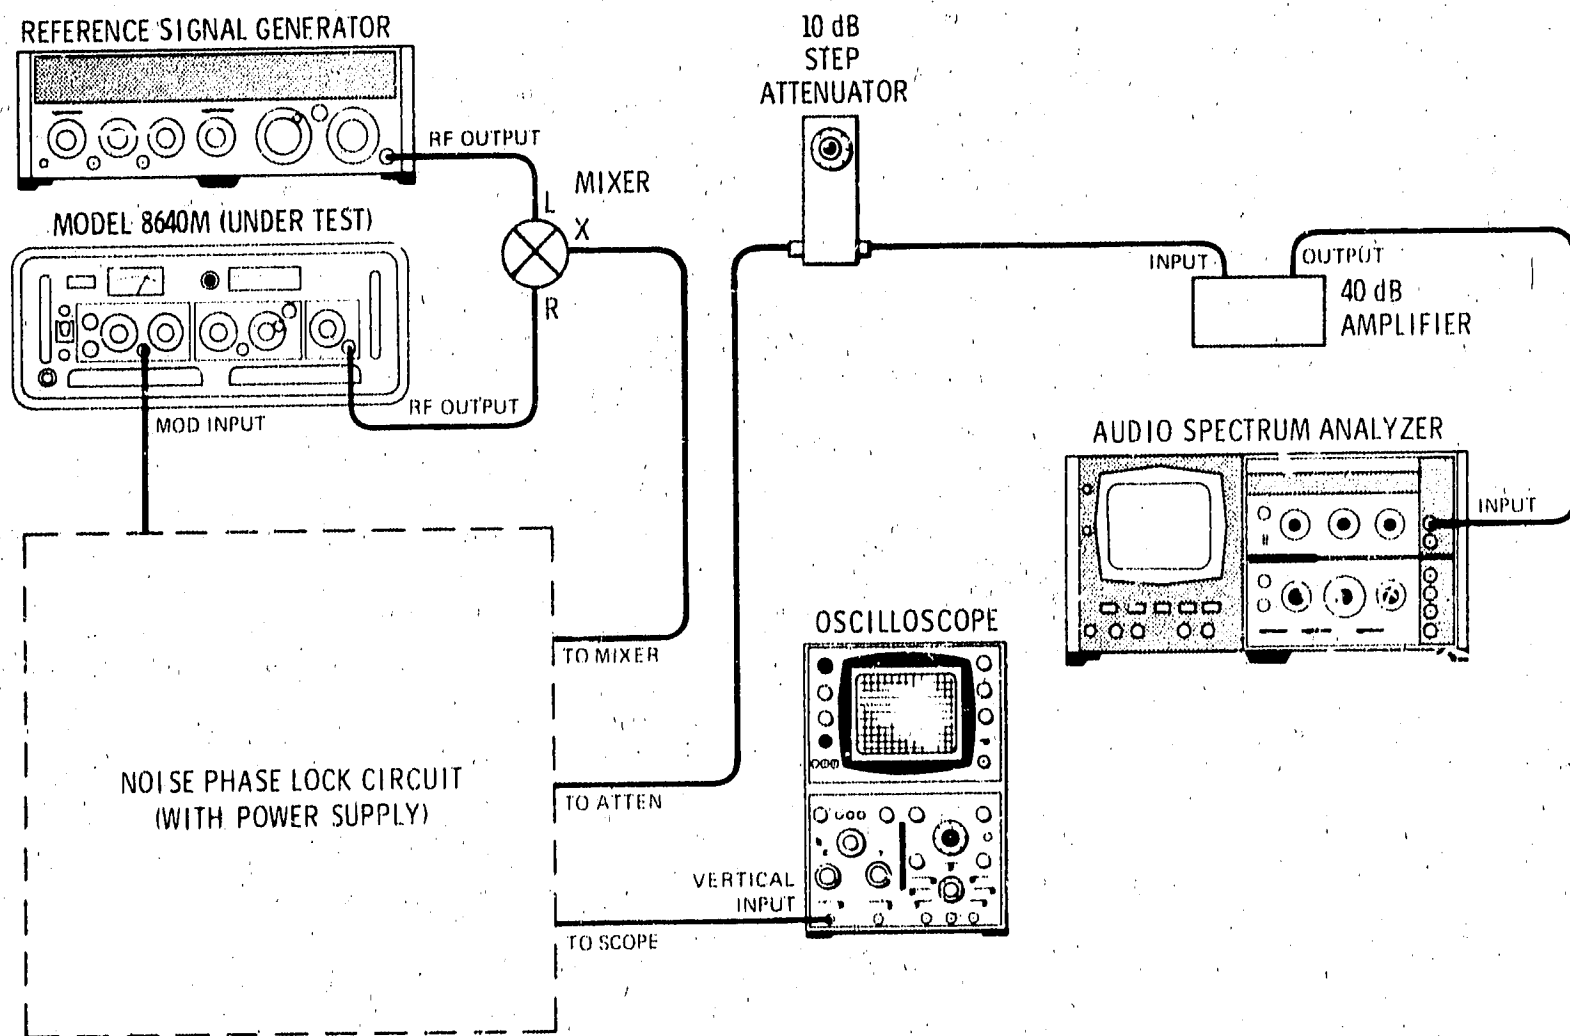

Figure 4-1. Single Sideband Phase Noise Test Setup
1. Connect equipment as shown in Figure 4-1 after setting test Signal Generator's controls as follows: